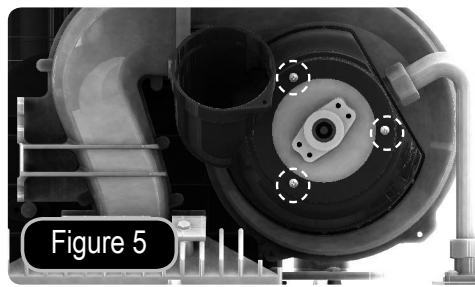

Figure 5
6. Loosen 3 screws to remove 'AGM cover'. See Figure 5.
For AGM cover, see Figure 5.